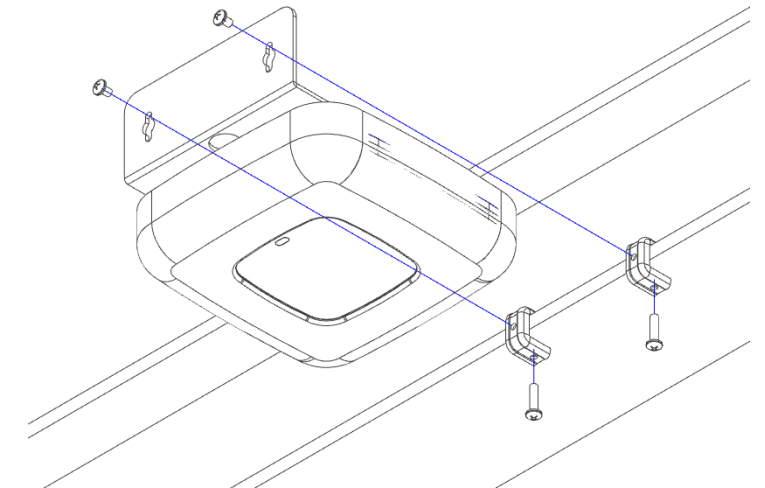

Figure 3
Step 4 – Mount the beam clamps to the desired location while maintaining the spacing of the mounting key slots on the back side of the bracket. Tighten the underside bolts to secure the beam clamps. Use the provided 1/4-20 screws to fasten the bracket and access point assembly (Figure 3).